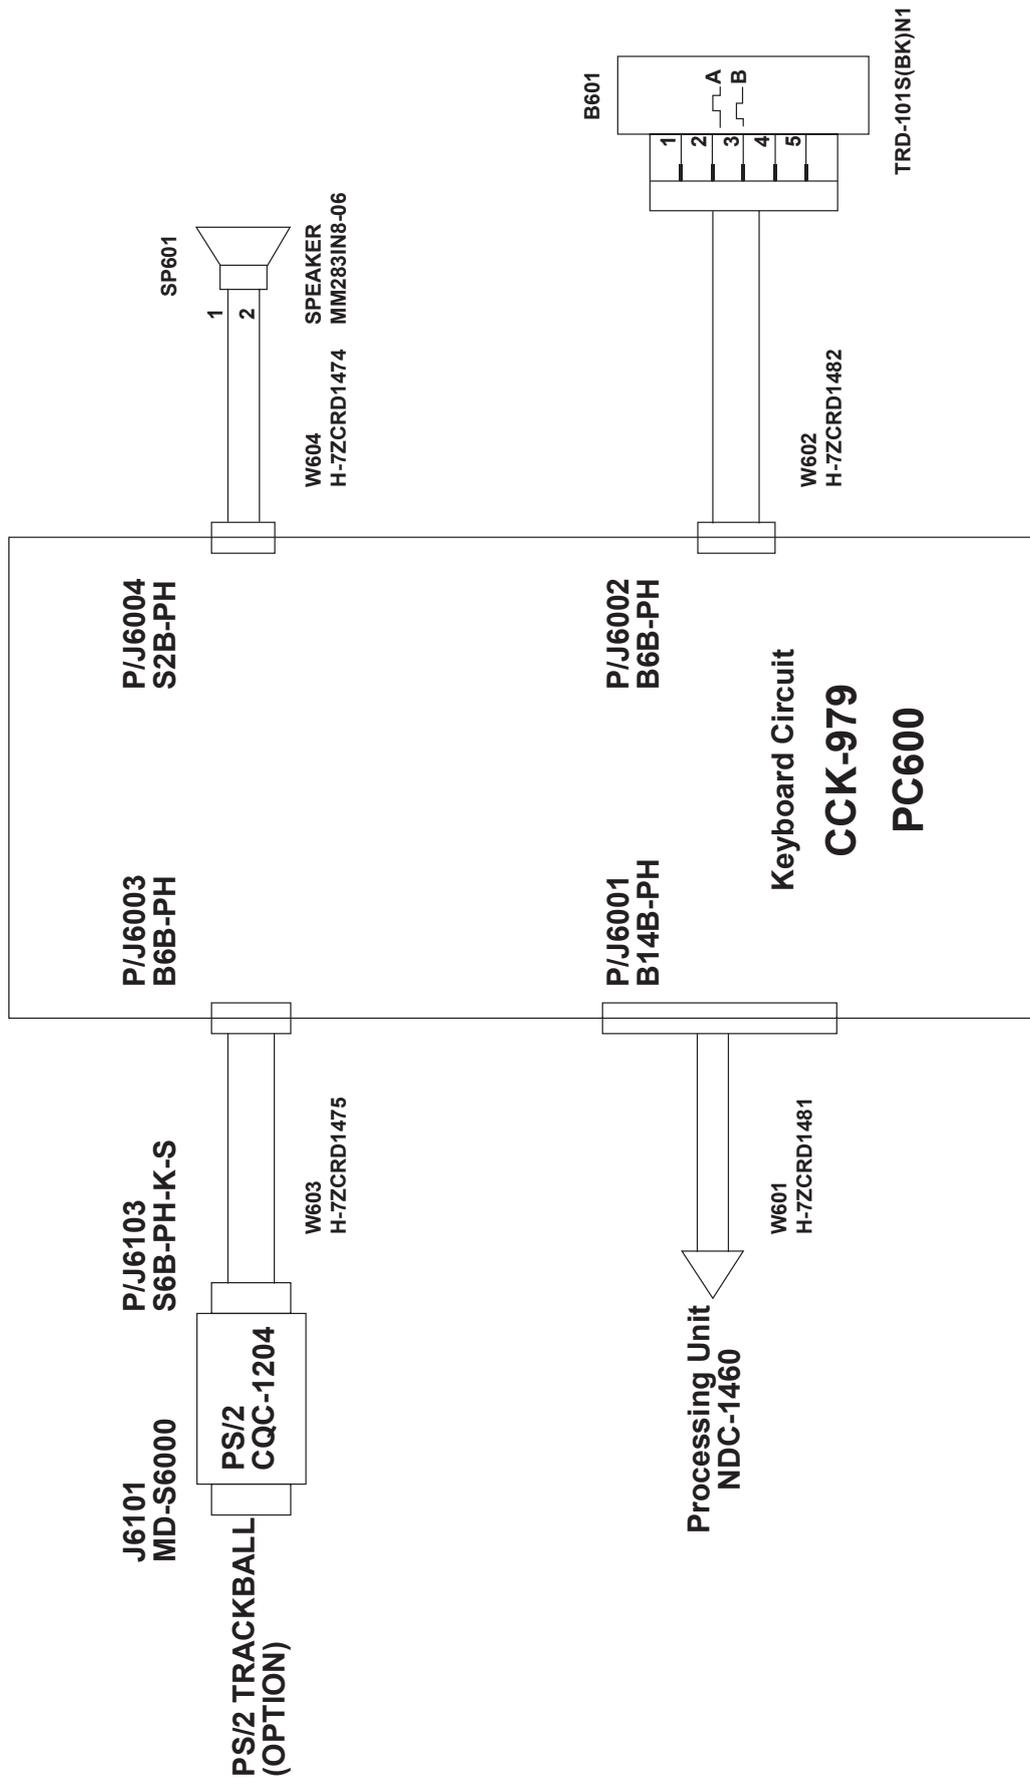

Figure 9 Key-board Unit, NCE-7699A Inter-connection Diagram
- FIGURE 9 KEY-BOARD UNIT, NCE-7699A INTER-CONNECTION DIAGRAM